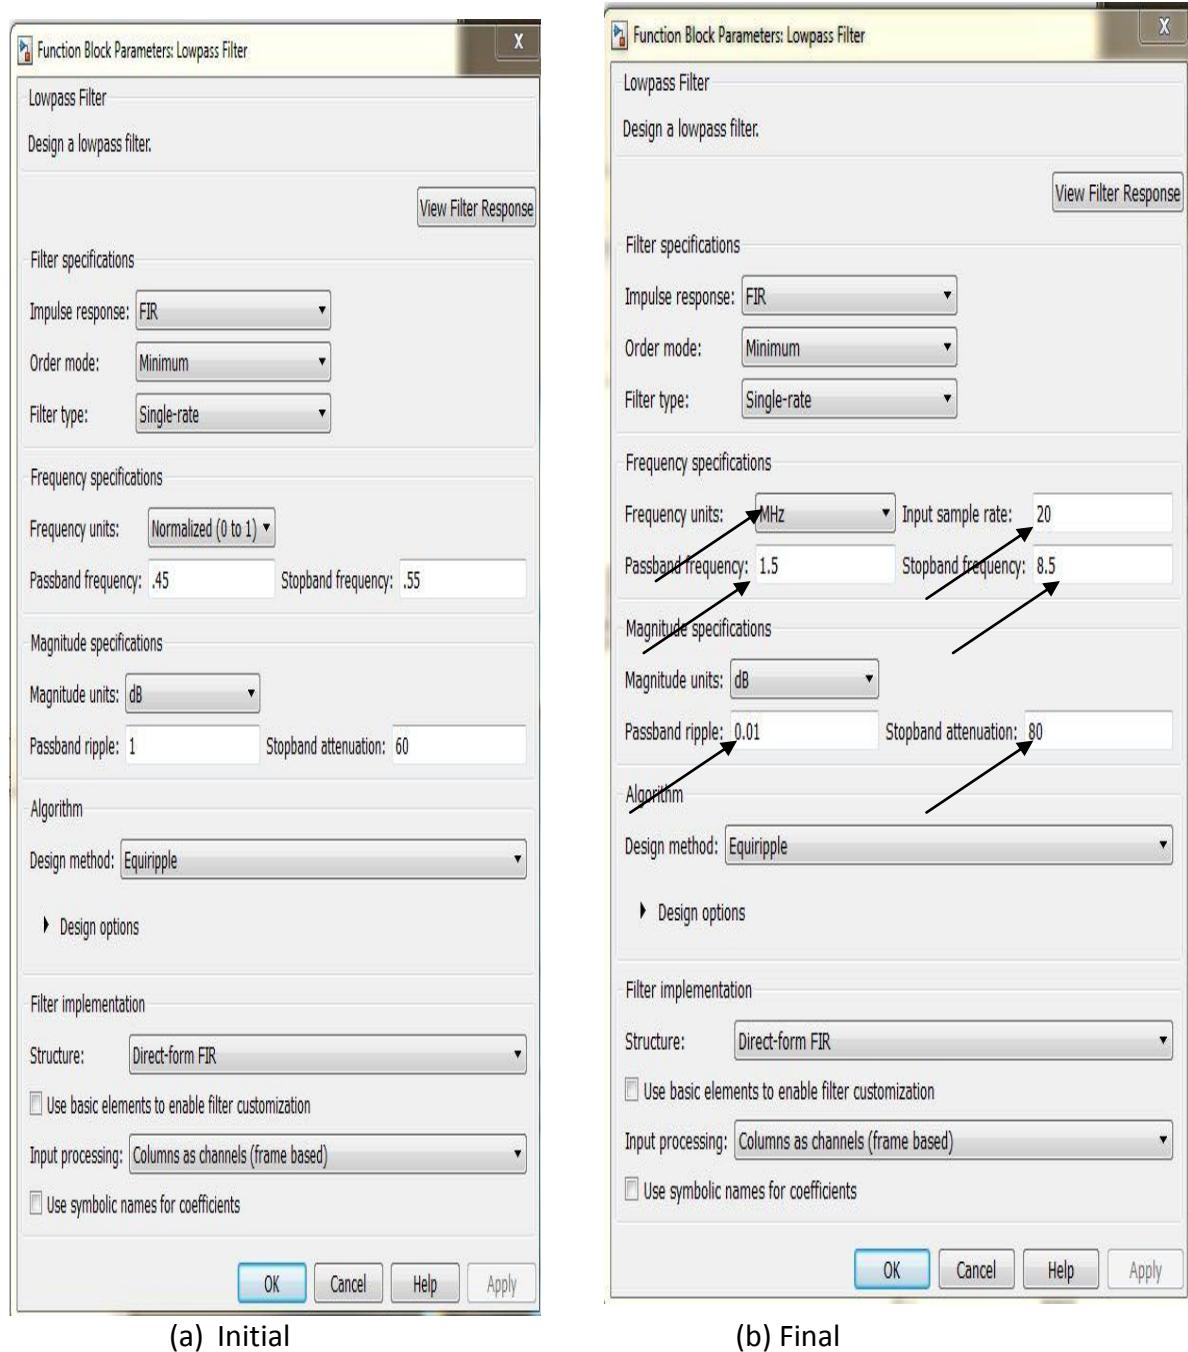

Figure 14: Low Pass Filter properties.
6. For block **Low Pass Filter**: We have made following changes as shown in the figure 14: